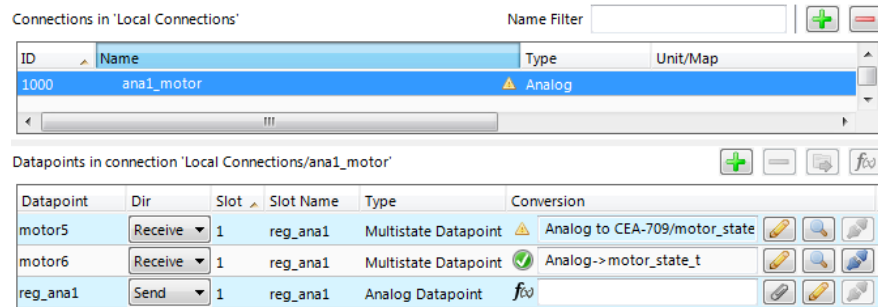

Figure 76: Connection tab with a connection and data points.
- Now the connection tab contains the new connection and below the list of data points in that connection as shown in Figure 76.